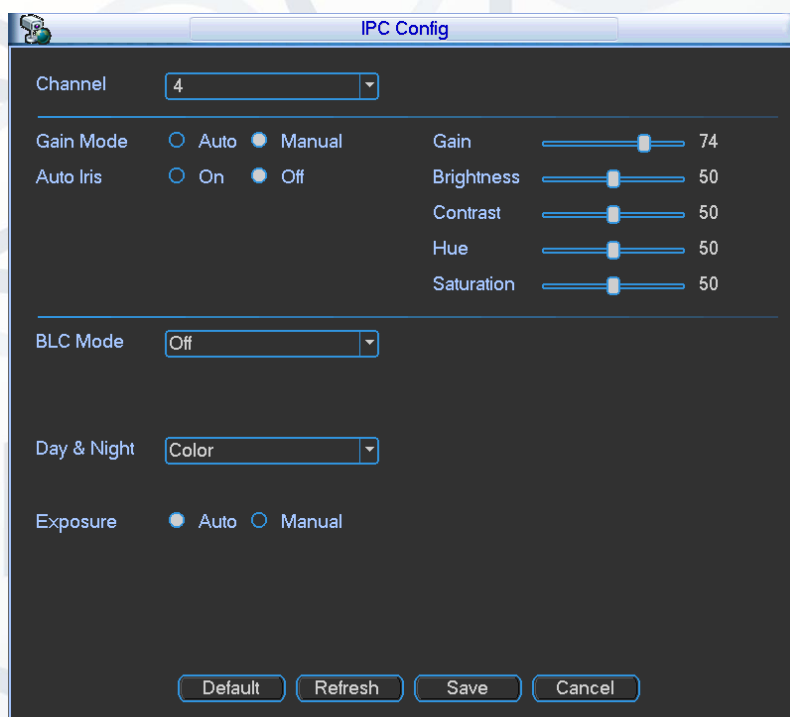

Figure 5-72
- **IPC config:** Double click the  on the IPC config column, you can go to the IPC setup interface (see Figure 5-72).